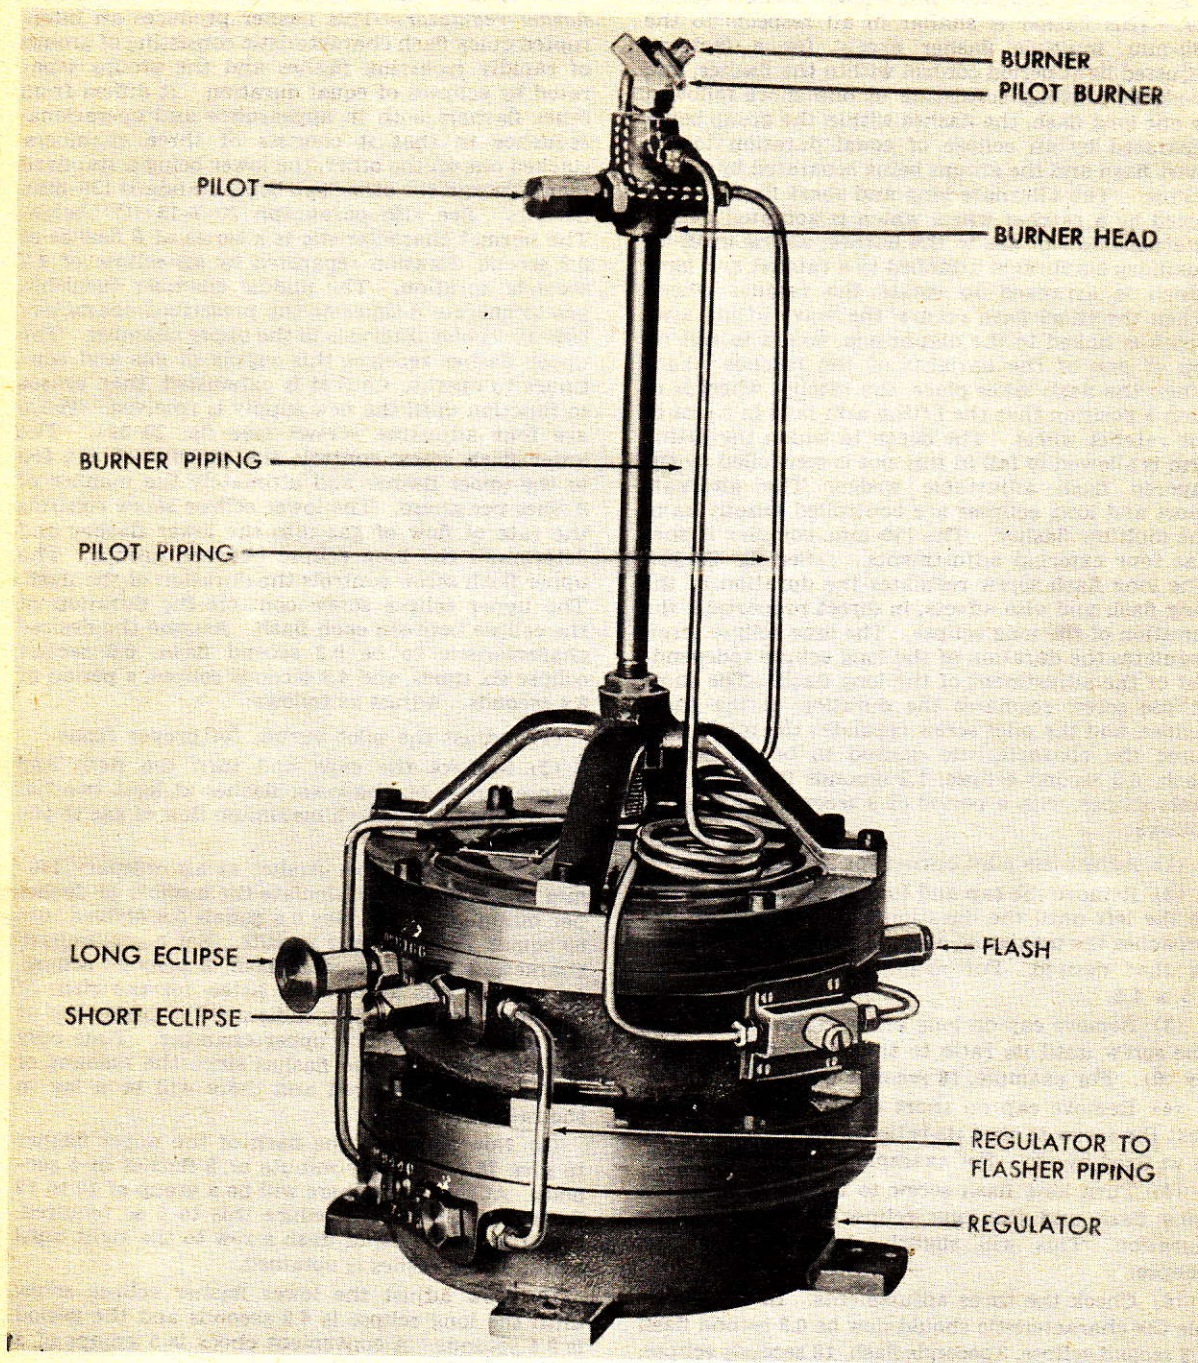

FIGURE 20-36.—130-mm. complex flasher-regulator.
E. 130-mm. complex short-long flasher-regulator.—This flasher is similar in all respects to the 130-mm. multiple flasher except for a factory-adjusted light period control within the flasher, and produces a group consisting of one short followed by one long flash, the flashes within the group being separated by an eclipse of equal duration to the short flash and the groups being separated by a long eclipse. The alternate long and short flash is produced by a ratchet wheel which is actuated by the alternate flow of gas to the burner, acting upon an auxiliary diaphragm attached to a ratchet and pawl which is arranged to rotate the ratchet wheel. When the short flash occurs, the valve lifting arm, which is linked to the diaphragm, comes to rest on top of one of the uprights of the ratchet wheel. When the flash takes place, the ratchet wheel is in such a position that the lifting arm falls in a slot in the ratchet wheel. The depth to which the lifting arm is allowed to fall in this slot is controlled by the tapered flash adjustable wedge. The alternate short and long eclipses are controlled exactly as in the multiple flasher. The 130-mm. complex flasher has four external adjustments. (See fig. 20-36). The long flash screw regulates the duration of the long flash and also affects, in direct proportion, the duration of the long eclipse. The long eclipse screw regulates the duration of the long eclipse independent of the adjustment of the long flash. The short eclipse screw regulates the duration of the short eclipse, and the pilot screw regulates the pilot. Assume the characteristic desired to be 0.3 second flash, 0.3 second eclipse, 1.2 seconds flash, 7.2 seconds eclipse, with a period of 9 seconds. Adjust as follows:
- (1) Adjust the pilot burner for proper flame.
- (2) Remove the cap and turn the long flash screw to the left until the duration of the long flash approaches the maximum and is a convenient multiple of that desired. For example, 3 seconds equals 2.5×1.2 .
- (3) Remove cap on long eclipse screw and adjust the screw until its ratio to that desired is as fixed by (6). For example, 18 seconds equals 2.5×7.2 .
- (4) Remove cap on short eclipse screw and adjust the screw so that its ratio to the desired eclipse is as fixed by (6). For example 3.0 equals 2.5×1.2 .
- (5) Turn long flash screw to the right until the long flash and the long eclipse have the desired duration. This will slightly decrease the short eclipse.
- (6) Check the three adjustments. In the example the characteristic should now be 0.3 second flash 0.3 second eclipse, 3 seconds flash, 18 seconds eclipse, or a period of 21.6 seconds.
- (7) Turn the long flash screw to the right until the flash rate is 10 double flashes in 90 seconds.
- (8) Replace caps.